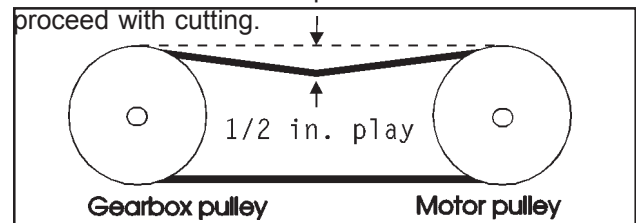

Figure 7: Setting correct play in drive belt
6. Turn the adjustment screw clockwise to tension the belt until there is 1/2 inch of play in the belt as shown in *Figure 7*.